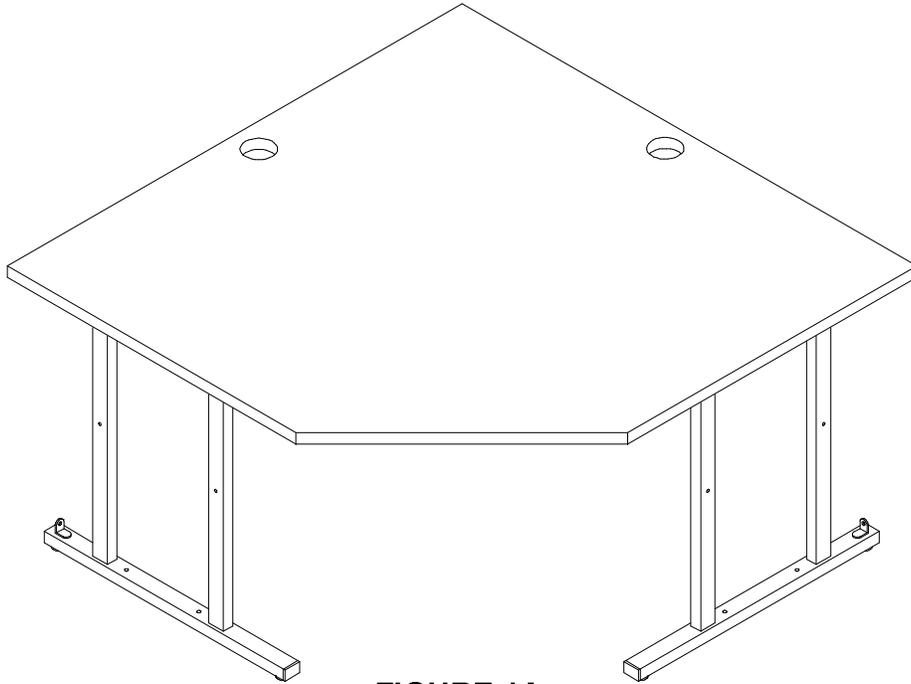

FIGURE 1A
3. With two people upright this portion of the table. **Caution: DO NOT** move table until backs have been installed. See figure 1A.